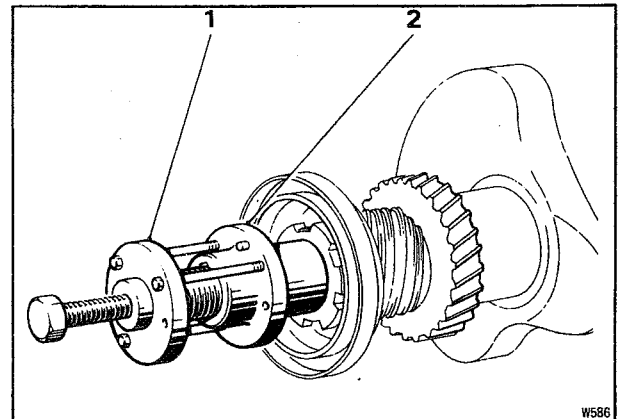

Fig. E44 Withdrawing the crankshaft front flange
23. Using the withdrawal tool (RH 7097), remove the pulley driving flange (see Fig. E44).